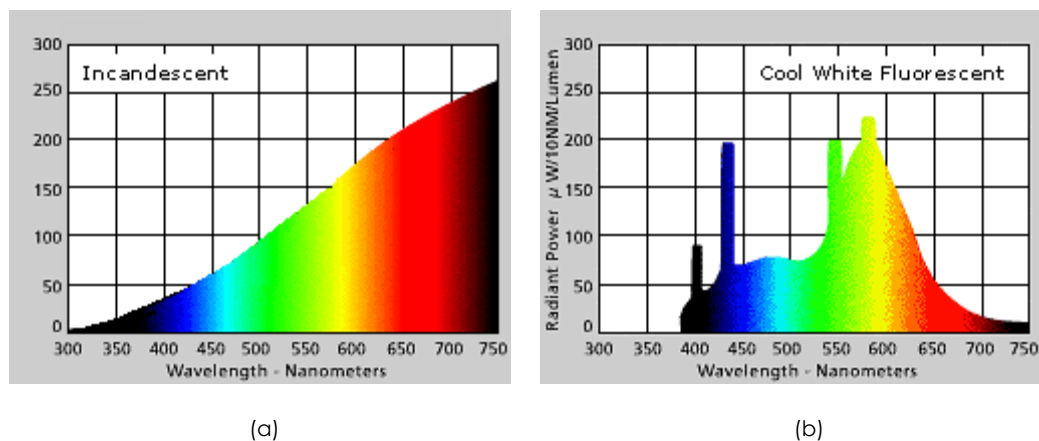

Fig. 7. SPD of: (a) incandescent lamp and (b) Cool white fluorescent lamp. Source: [2]
- **Spectral Power Distribution:** IESNA defines the Spectral Power Distribution (SPD) as “a pictorial representation of the radiant power emitted by a light source at each wavelength or band of wavelengths in the visible region of the electromagnetic spectrum (360 to 770 nanometers)” [2]. The manufactures of lamps provide SPD curves of some light sources. Fig. 7 depicts the SPD of two different lamps with very different distributions of their radiant power versus wavelength.